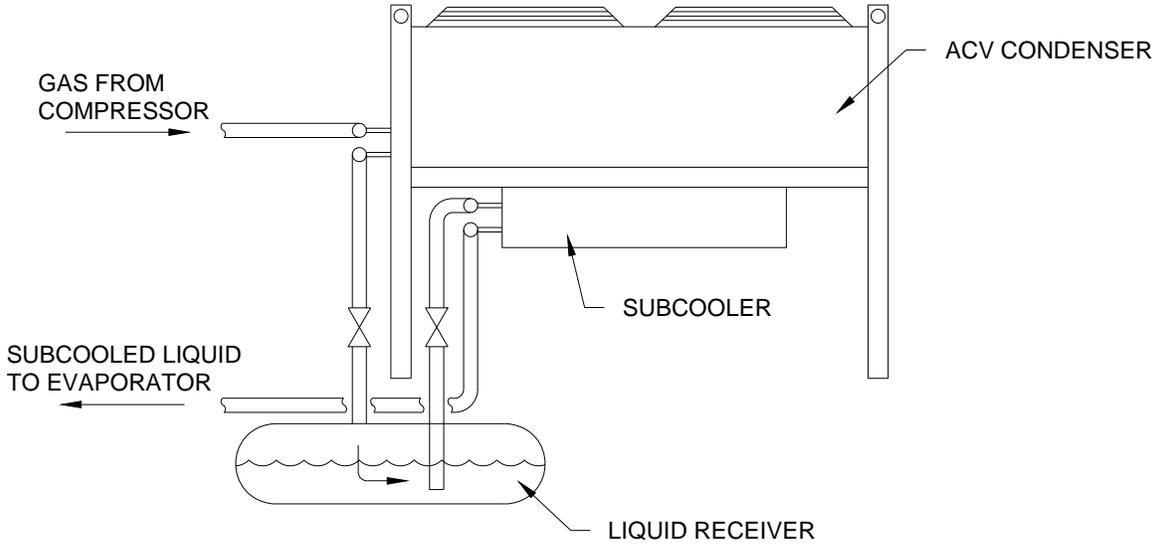

Figure 4
5.4.2. Liquid Pump – Is a centrifugal refrigerant pump installed at the outlet of the receiver to boost the pressure of the liquid before it enters the liquid line. This increase in pressure effectively “subcools” the liquid. See Figure 4 “Recommended Subcooler Piping”. For engineering information, see Colmac Bulletin 1400.